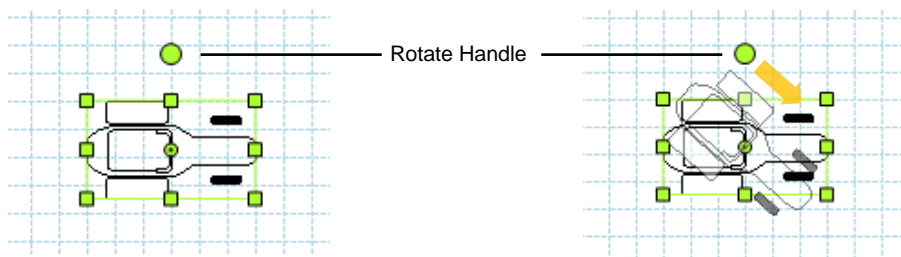

Figure 144. Rotating a Symbol
1. Drag the rotate (green) handle to rotate the symbol, as shown in Figure 144.